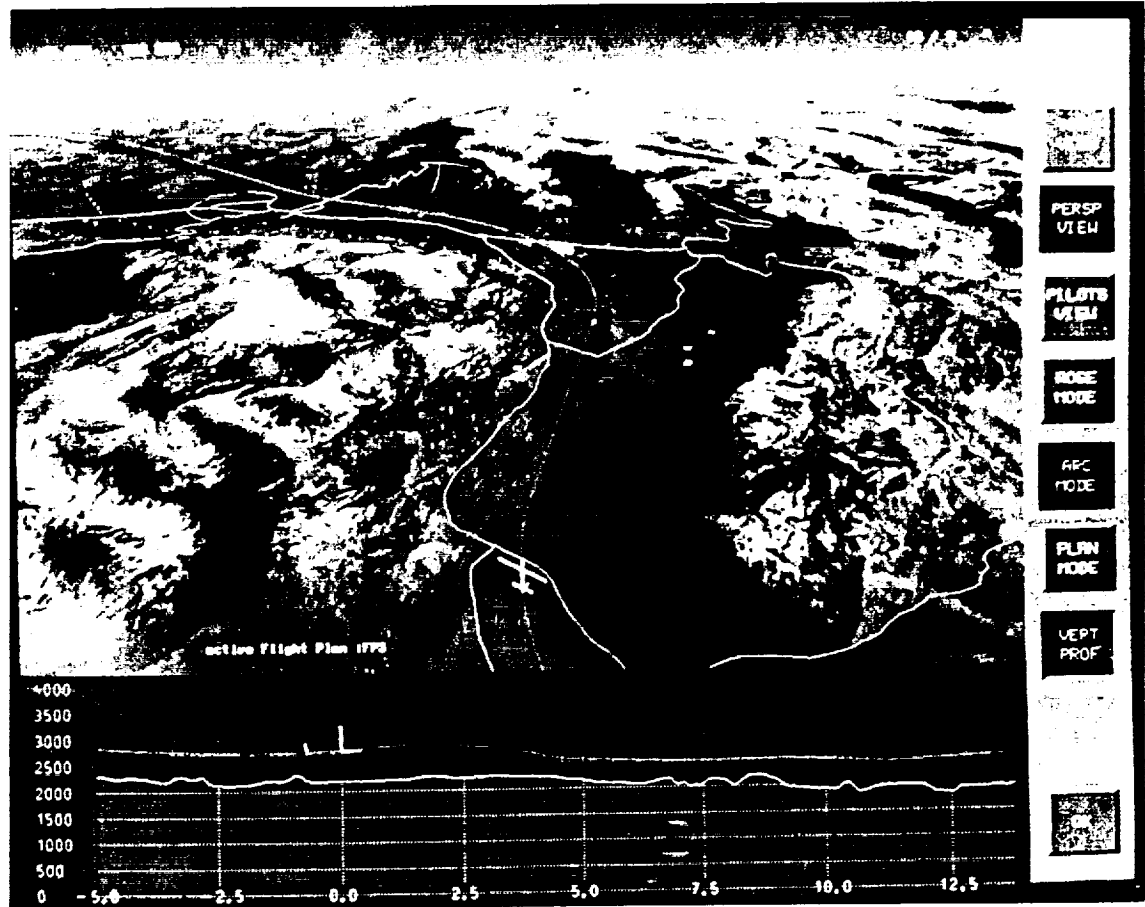

Figure 3: Navigation Display Format:
- Perspective view of the terrain and the flight progress (Figure 3)